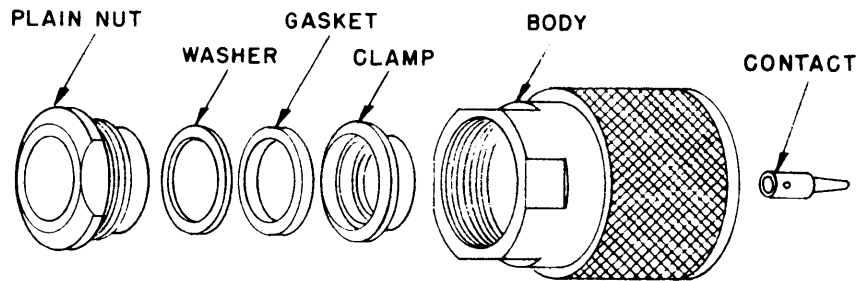

FIGURE 1
1. Disassemble plug. Lay it out as shown in Figure 1.